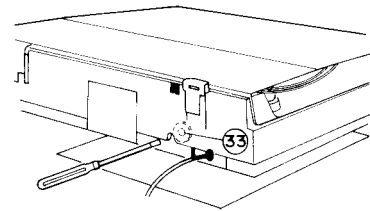

Figure 6
(1) If the tonearm is above or on the turntable platter, turn the pulley "33" counterclockwise through the hole as shown in Figure 6 with a slotted-head screwdriver (width 2.5 ~ 4 mm) until tonearm moves to its rest position. Remove the turntable platter.
Move the tonearm to the position where the cover "10" was mounted, turning the pulley "33" clockwise as shown in Figure 6.
If the tonearm does not move by turning the Pulley "33" (Figure 6), an additional force by finger should be added to the bended part of tonearm in the desired direction.